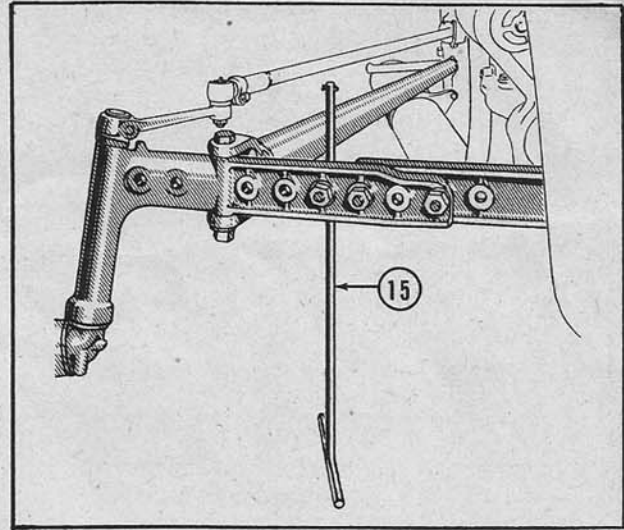

FIG. 7—STEERING POINTER IN CORRECT POSITION
14. Attach strut assembly (14). Note that lynch pin clip is on the right side.
15. Install steering pointer (15) on tractor as shown in Fig. 7.
The steering pointer (15) Fig. 7 should be set just above the row crop, and exactly centered between the two front sweeps